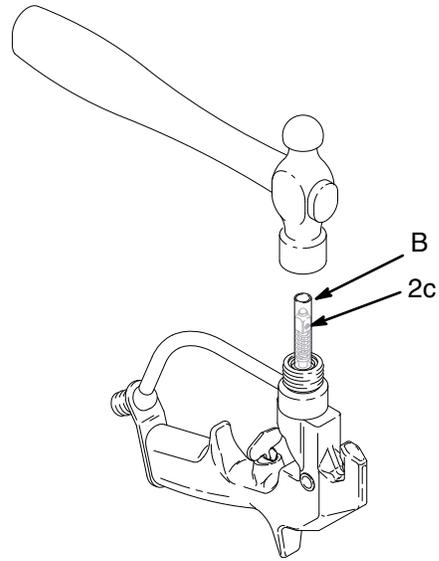

Fig. 9
- Slide the rear of the needle (2c\*) into the front of the gun. Slide the tool (B), provided with the repair kit, into the gun, around the needle. Lightly tap the tool with a hammer or lightly press the tool against a flat surface to seat the needle. See Fig. 9. Remove the tool.